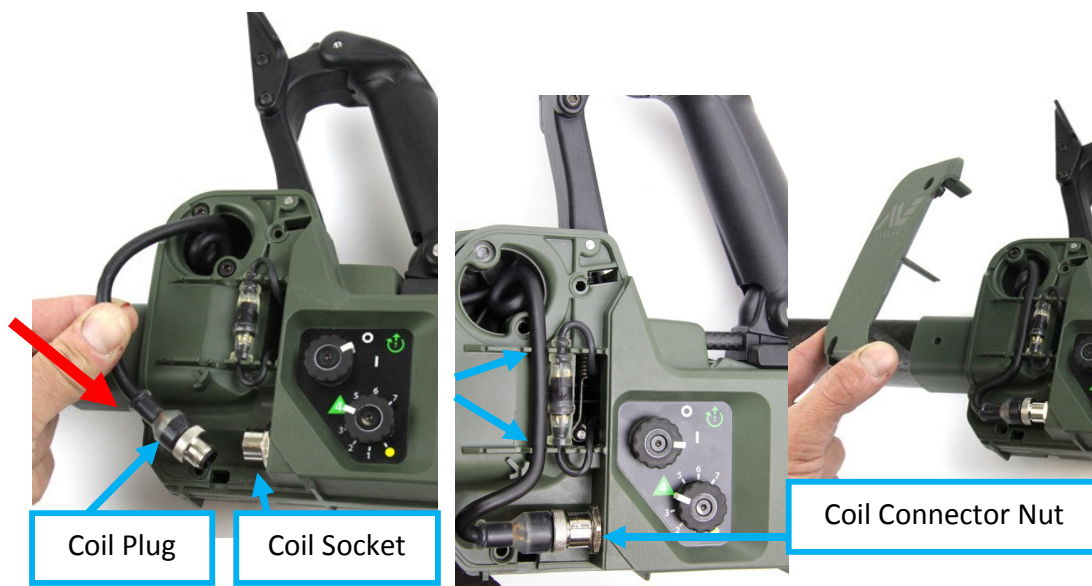

Figure 17: Connecting Coil Cable and Removing Hinge Cover
- Attach the coil connector to the socket and tighten the coil connector as tight as possible with fingers. Figure 17.